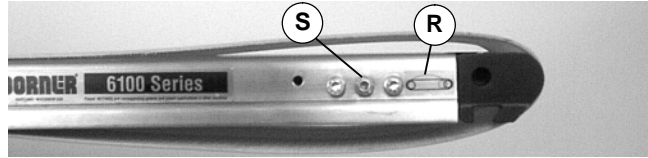
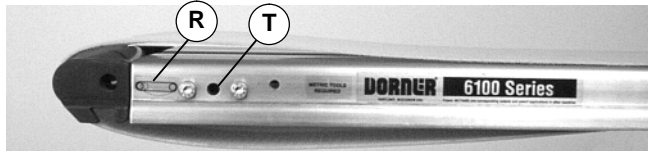
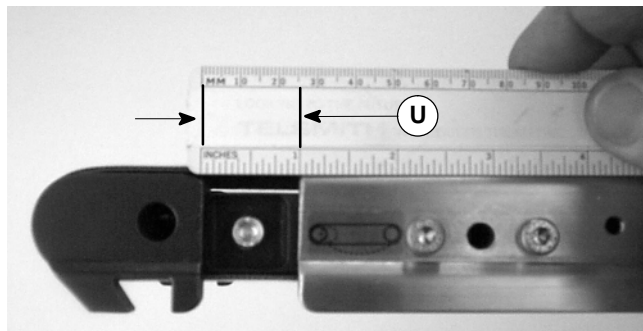

Figure 19
Figure 20
Figure 34
6. On tension end of the conveyor identified with label (R of Figures 19 & 20), loosen screw (S of Figure 19). Rotate pinion gear (T of Figure 20) clockwise until headplate shoulder contacts conveyor frame.
10. On tension end of the conveyor identified with  label (R of Figures 19 & 20), loosen screw (S of Figure 19). Rotate pinion gear (T of Figure 20) clockwise until headplate shoulder contacts conveyor frame.
9. On tension end of the conveyor identified with  label (R of Figures 19 & 20), rotate pinion gear (T of Figure 20) counter-clockwise to a distance of 25 mm (U of Figure 34).
10. Tighten lock screw (S of Figure 19) to 4.5 Nm.